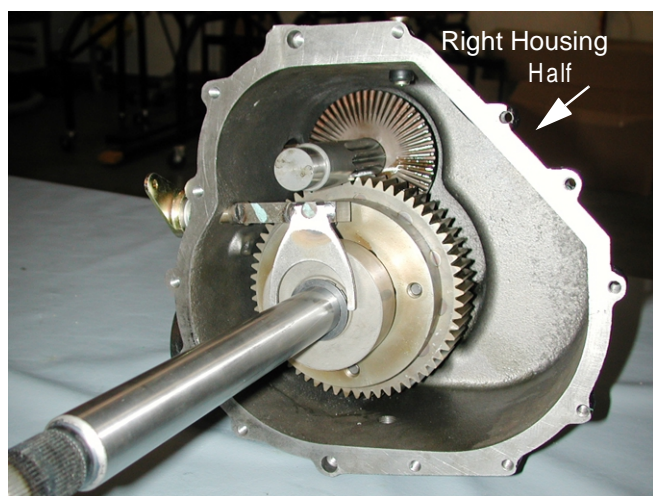

Figure 19
27. Slowly remove the left housing from the axle assembly. See Figure 19.